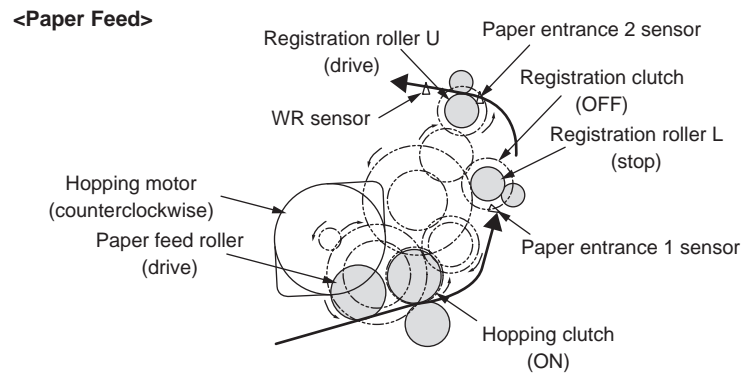

Figure 2-1
1. As illustrated in Figure 2-1, when the hopping clutch is ON, the hopping motor rotates (counterclockwise), transporting the paper until the paper entrance 1 sensor comes ON. (When the hopping clutch is ON, the paper feed roller is driven.)